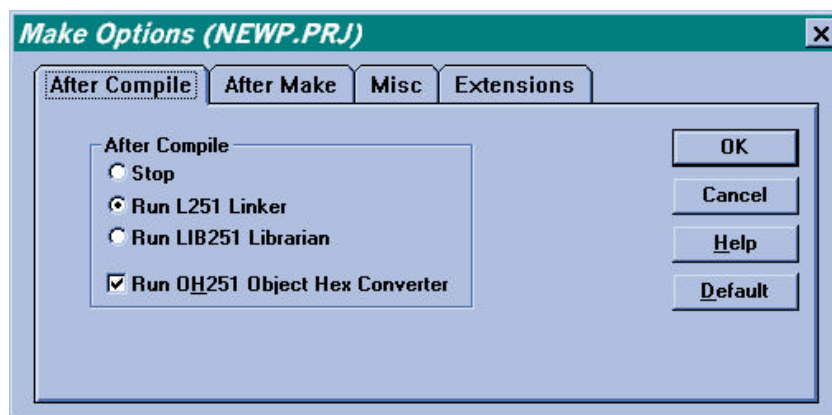

FIGURE 1
- Configure the options in the window as shown in Figure 1 and press *OK*.